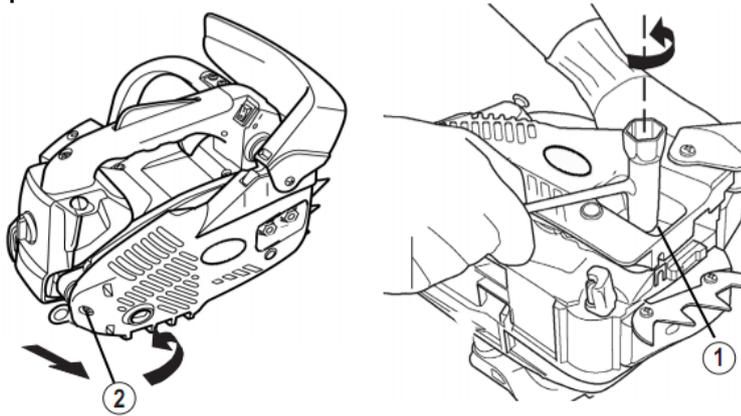

Fig.6
3) Unscrew the nut (fig.6 item 1) and the screw (fig.6 item 2) and remove the sprocket cover.